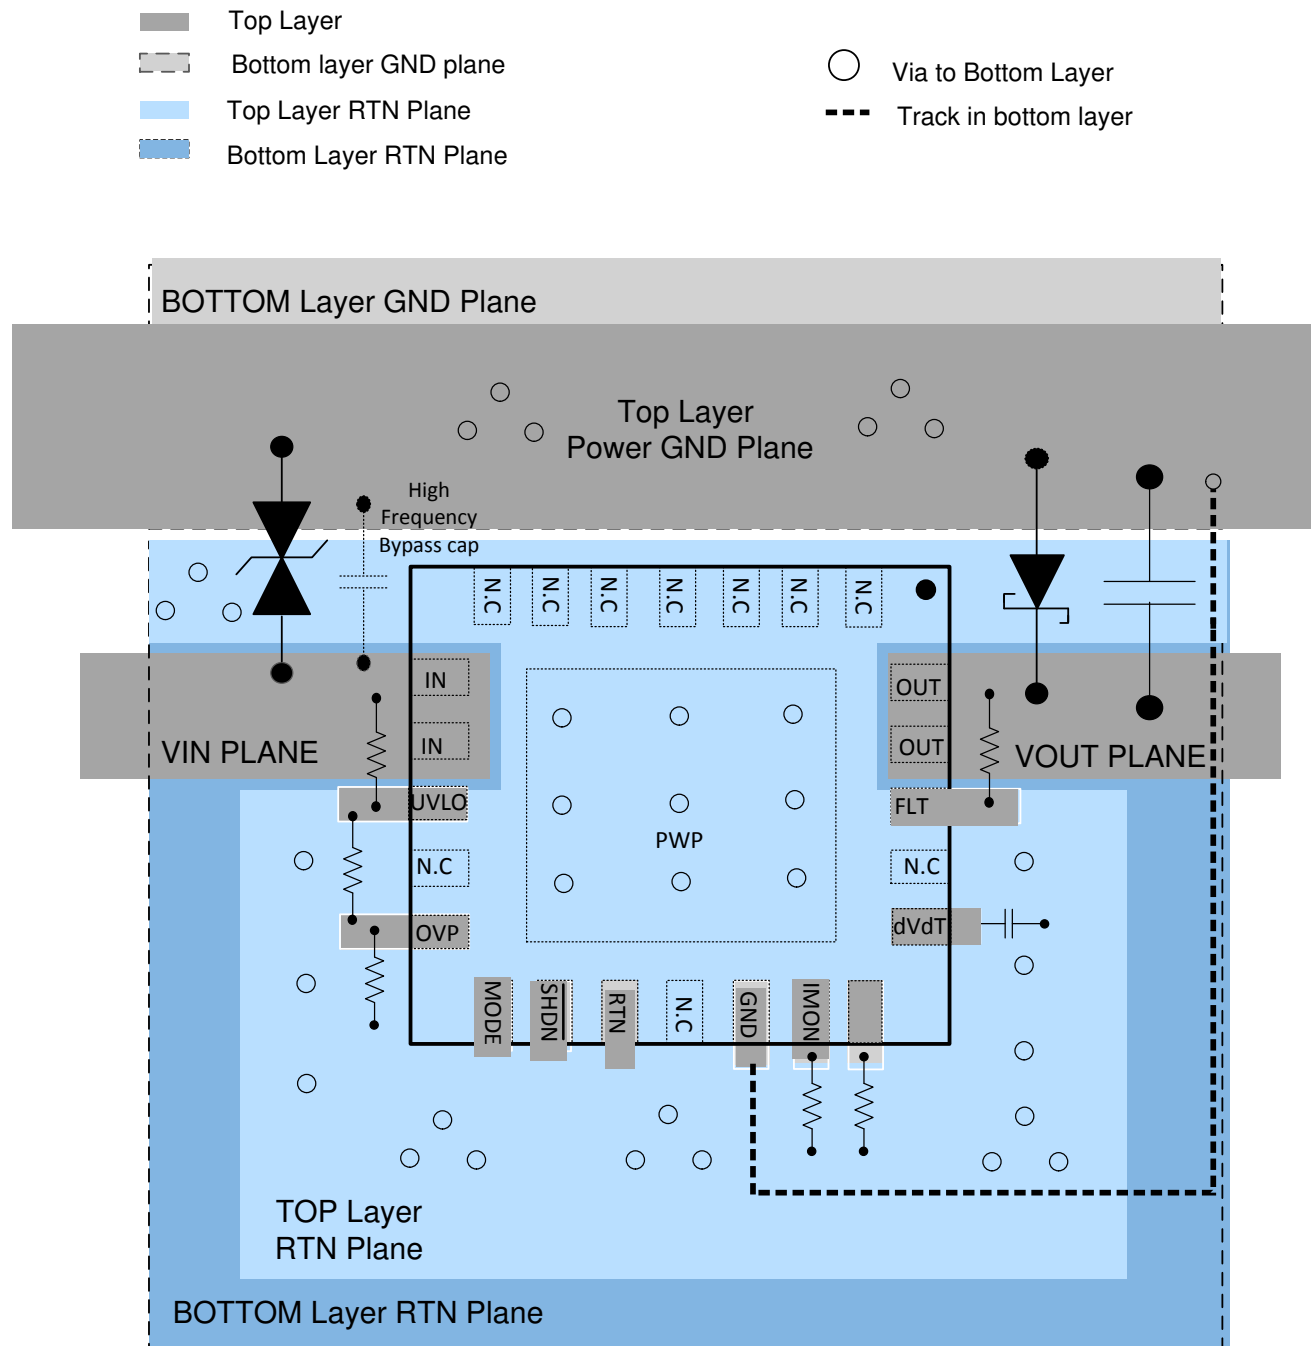

Figure 72. Typical PCB Layout Example With VQFN Package With a 2 Layer PCB
- The optimum placement of decoupling capacitor is closest to the IN and GND terminals of the device. Care must be taken to minimize the loop area formed by the bypass-capacitor connection, the IN terminal, and the GND terminal of the IC. See Figure 71 and Figure 72 for PCB layout examples with HTSSOP and VQFN packages respectively.